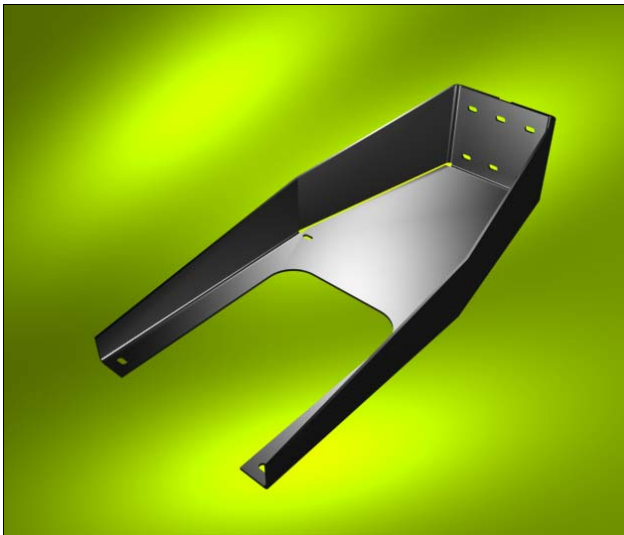

Figure 31 – UPPER MOUNTING BRACKET
- **UPPER MOUNTING BRACKET** (Code O-STF003): supplied complete with condensate drain and air/exhaust gas pipe connection kit with elements for drawing air/exhaust gases (see Figure 31).